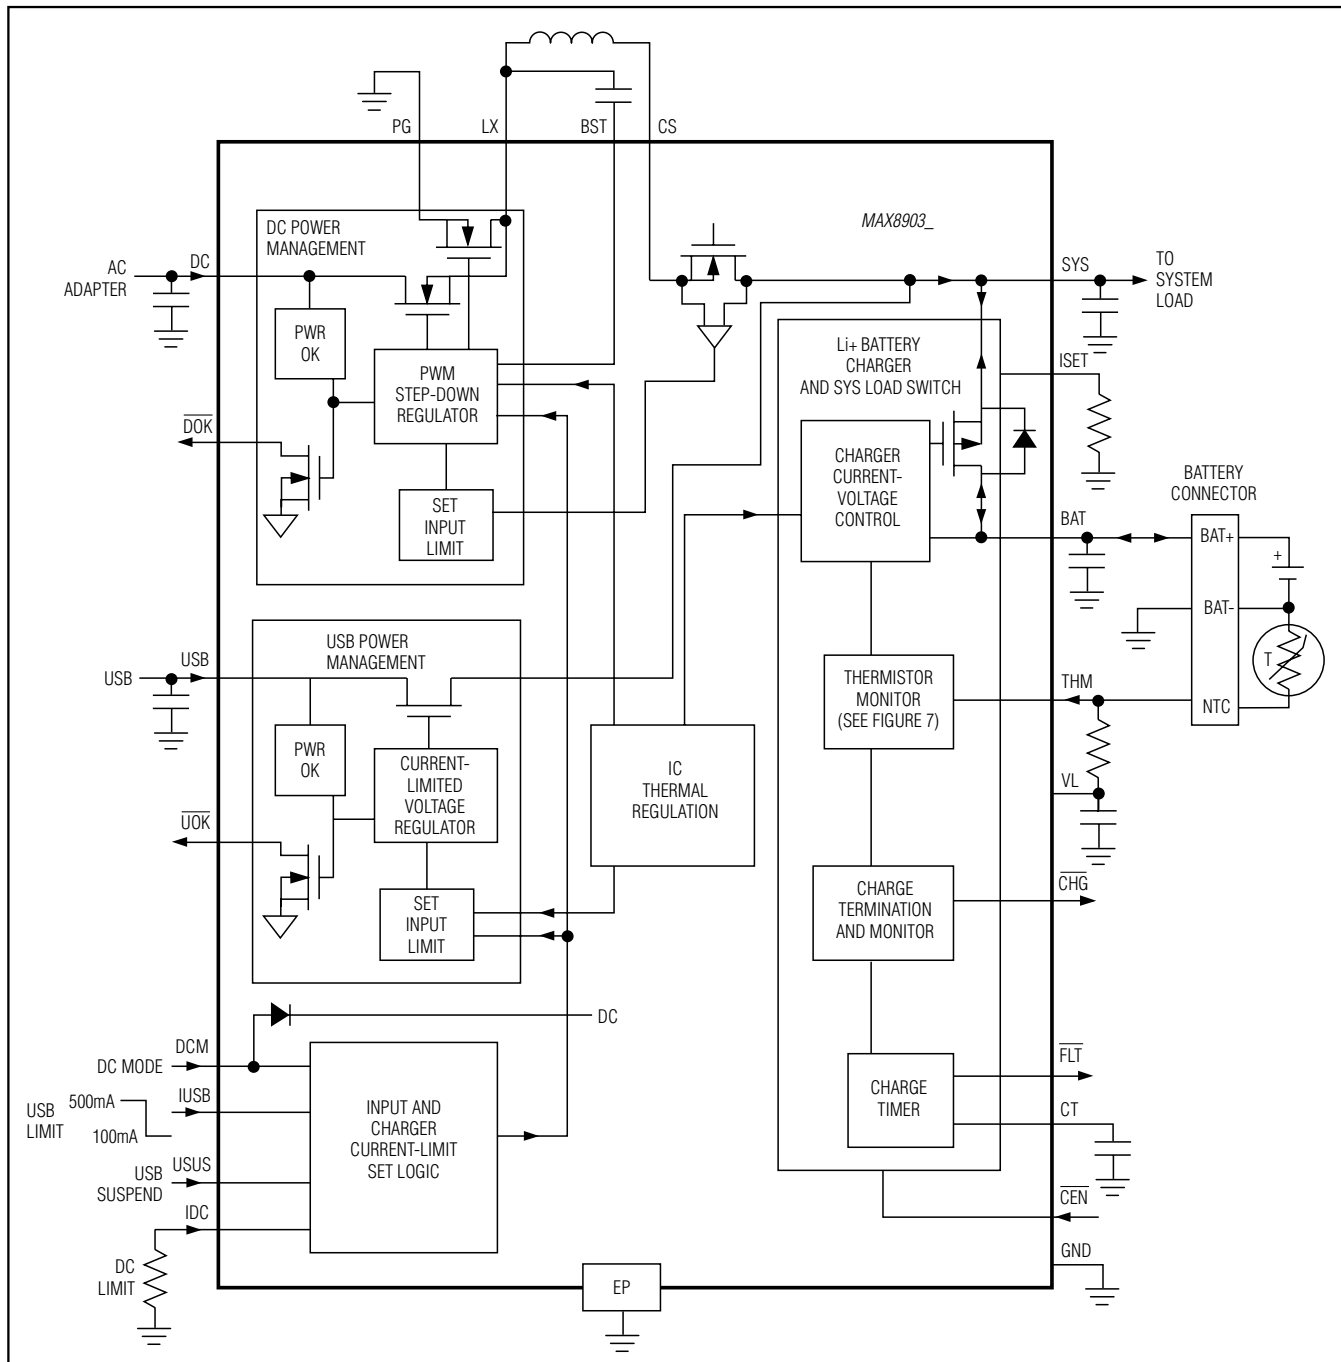
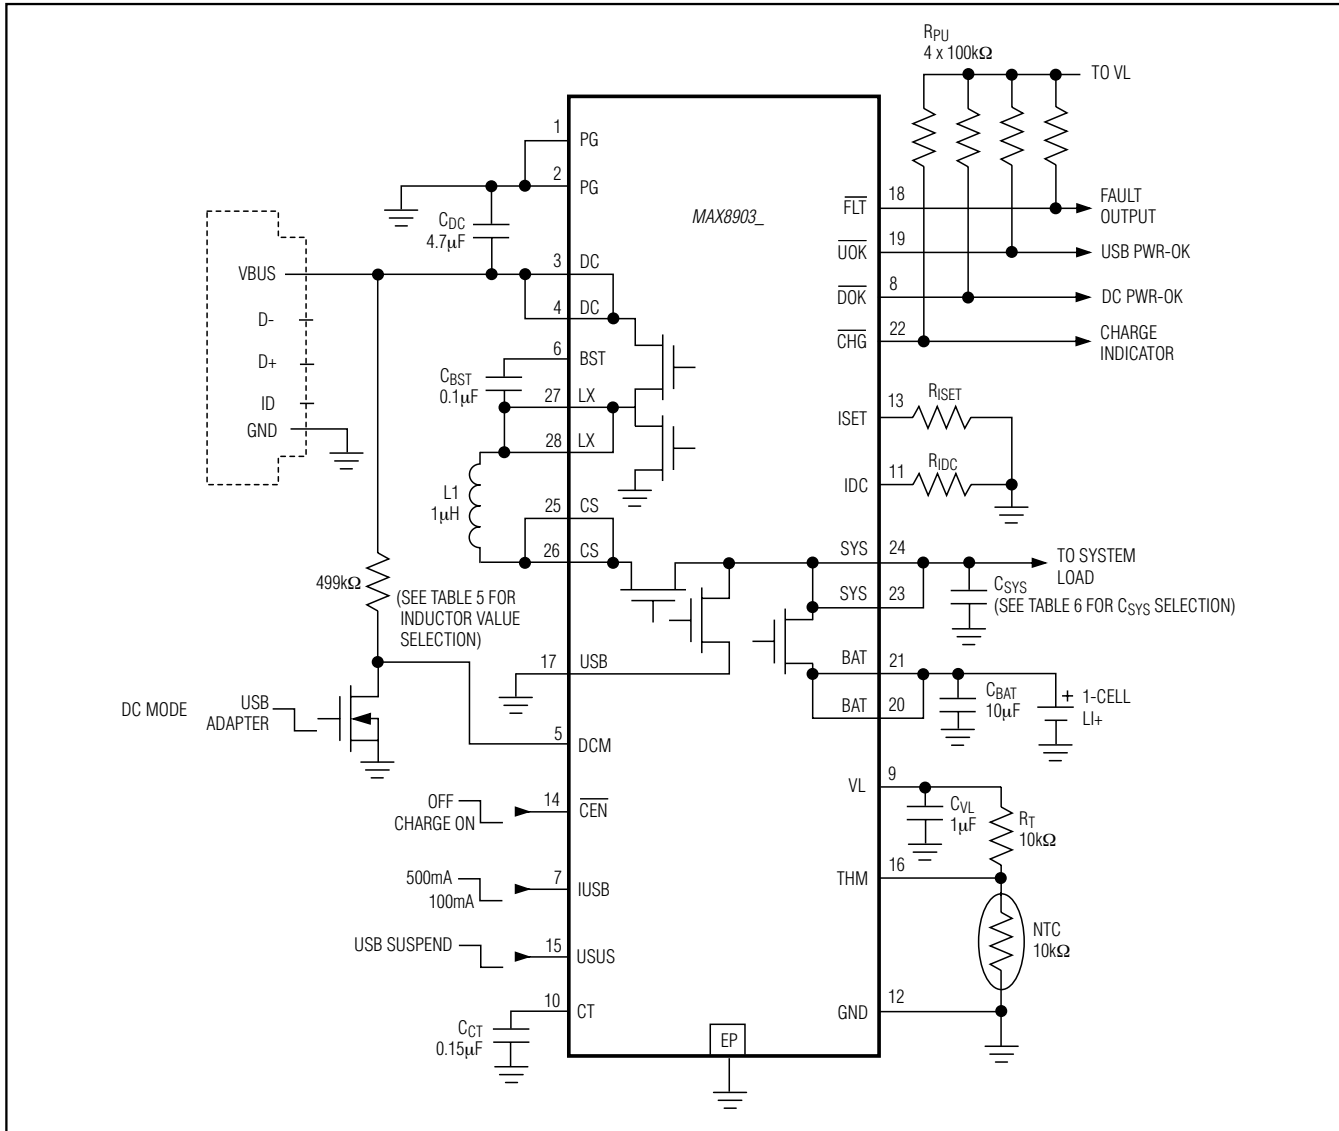

Figure 1. Functional Block Diagram
Figure 3. Typical Application Circuit Using a Mini 5 Style Connector or Other DC/USB Common Connector
As shown in Figure 1, the IC includes a full-featured charger with thermistor monitor, fault timer, charger status, and fault outputs. Also included are power-OK signals for both USB and DC. Flexibility is maintained with adjustable charge current, input current limit, and a minimum system voltage (when charging is scaled back to hold the system voltage up).
The DCM pin has an internal diode to DC as shown in Figure 1. To prevent current from flowing from DCM through the internal diode and to the DC input, DCM cannot be driven to a voltage higher than DC. The
circuit of Figure 3 shows a simple MOSFET and resistor on DCM to prevent any current from flowing from DCM through the internal diode to DC. This circuit of Figure 3 allows a microprocessor to drive the gate of the MOSFET to any state at any time.
An alternative to the simple MOSFET and resistor on DCM as shown in Figure 3 is to place a $1\text{M}\Omega$ resistor in series with the DCM input to the microprocessor. The microprocessor can then monitor the $\overline{\text{DOK}}$ output and make sure that whenever $\overline{\text{DOK}}$ is high DCM is also low. In the event that DCM is driven to a higher voltage than DC, the $1\text{M}\Omega$ series resistance limits the current from DCM through the internal diode to DC to a few μA .
***There is an internal diode from DCM (anode) to DC (cathode) as shown in Figure 1. If the DCM level needs to be set by a μP , use a MOSFET for isolation as shown in Figure 3.